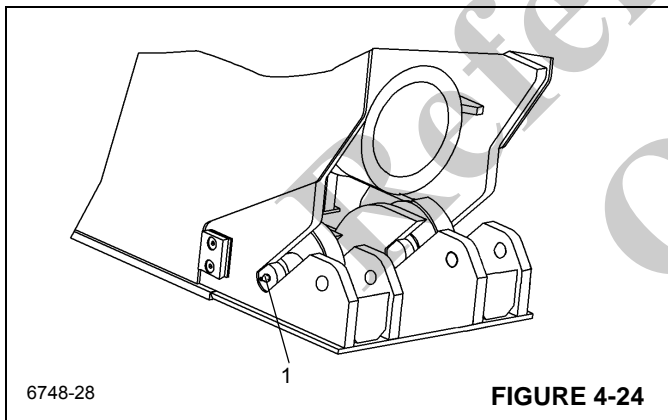

FIGURE 4-24
1. At the rear of the outer mid, on both sides, remove the bolt and cable retainer bushing from above each retract cable sheave assembly (Figure 4-24, 1).